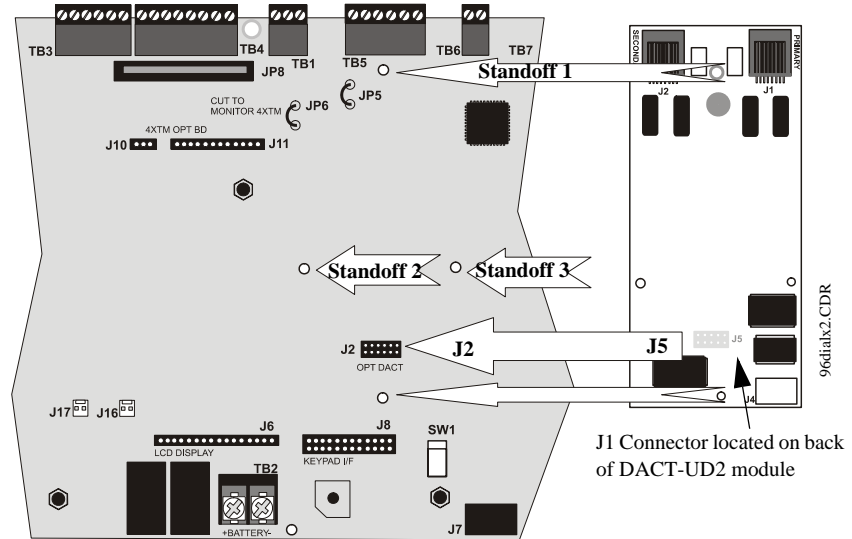

Figure 2.3 DACT-UD2 J1 Connector to FACP J2 Connector
4. Remove and discard the Keypad/Display support standoff that presently occupies DACT-UD2 standoff location #3 (refer to Figure 2.3)
5. Install the supplied DACT-UD2 female/female standoffs in the three locations shown in Figure 2.3 and secure with the three supplied screws, inserted from the bottom side of the main circuit board. Be sure to tighten them fully.